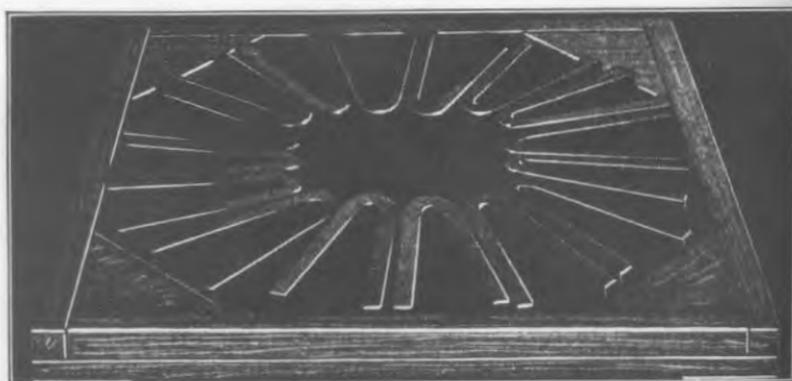

Fig. 192
- 284** When new magnets are shipped from the factory they are placed on a board (See Fig. 192) and unless they have been disturbed they are in identically the same relation to each other as they should be when installed on the flywheel.